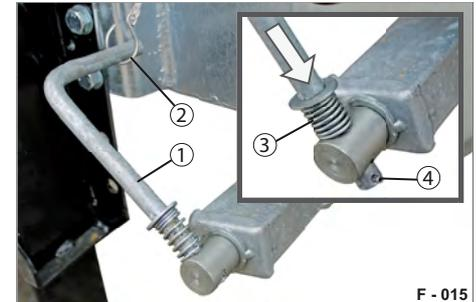
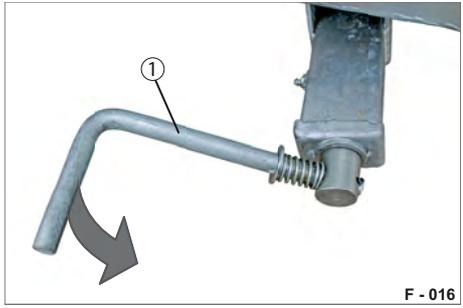

Fig. 14 Screw parking brake secured
Fig. 15 Releasing the screw parking brake
- ▶ Press the crank (Fig. 14/1) against the compression spring (Fig. 14/3).
- ▶ Turn the crank (Fig. 14/1) at the same time so that the pin (Fig. 14/4) engages.
- ▶ Fit the hook of the securing cable (Fig. 14/2) over the crank.
- ▶ Release the hook (Fig. 14/2) from the crank (Fig. 15/1).
- ▶ Rotate the crank (Fig. 15/1).
- ▶ Rotate the crank (Fig. 15/1) anticlockwise as far as it will go. The trailer is unbraked.